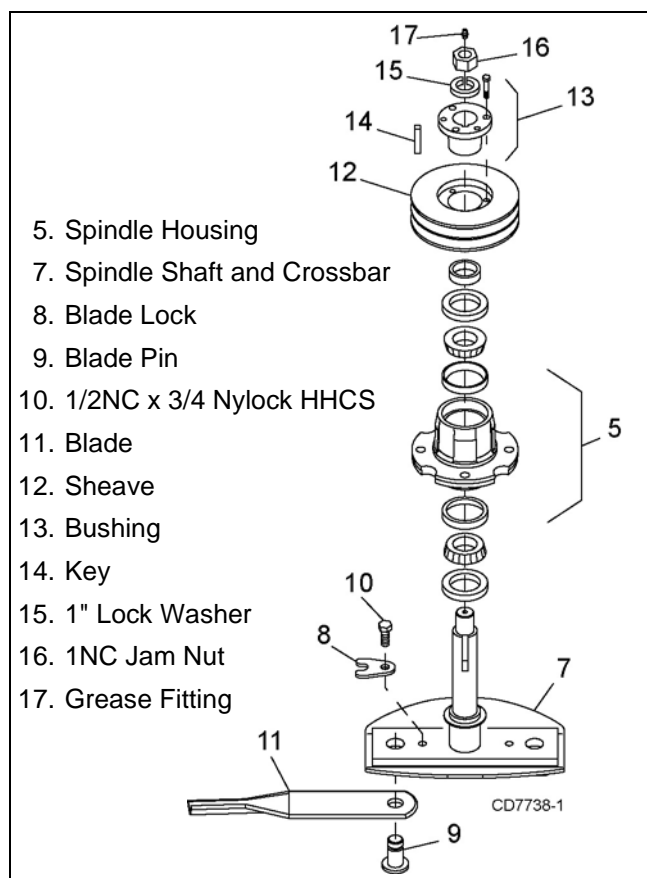

Figure 15. Sheave and Blade Assembly
1. Remove blade (11) from spindle (7).
3. Remove jam nut (16) and washer (15) from top of spindle shaft, Figure 15.
4. Disassemble split taper bushing (13) (located on top of pulley) by removing the two bolts and key (14).
7. Remove pulley (12).
9. Remove grease fitting (17) from top of shaft.